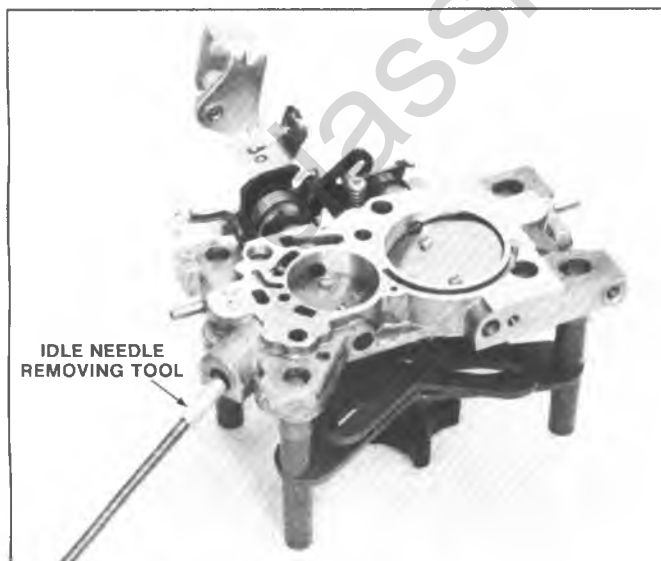

Fig. 6C2-35--Removing Idle Needle
c. Using Tool J-29030 remove idle mixture needle, washer (if used), and spring from throttle body (Fig. 6C2-35).